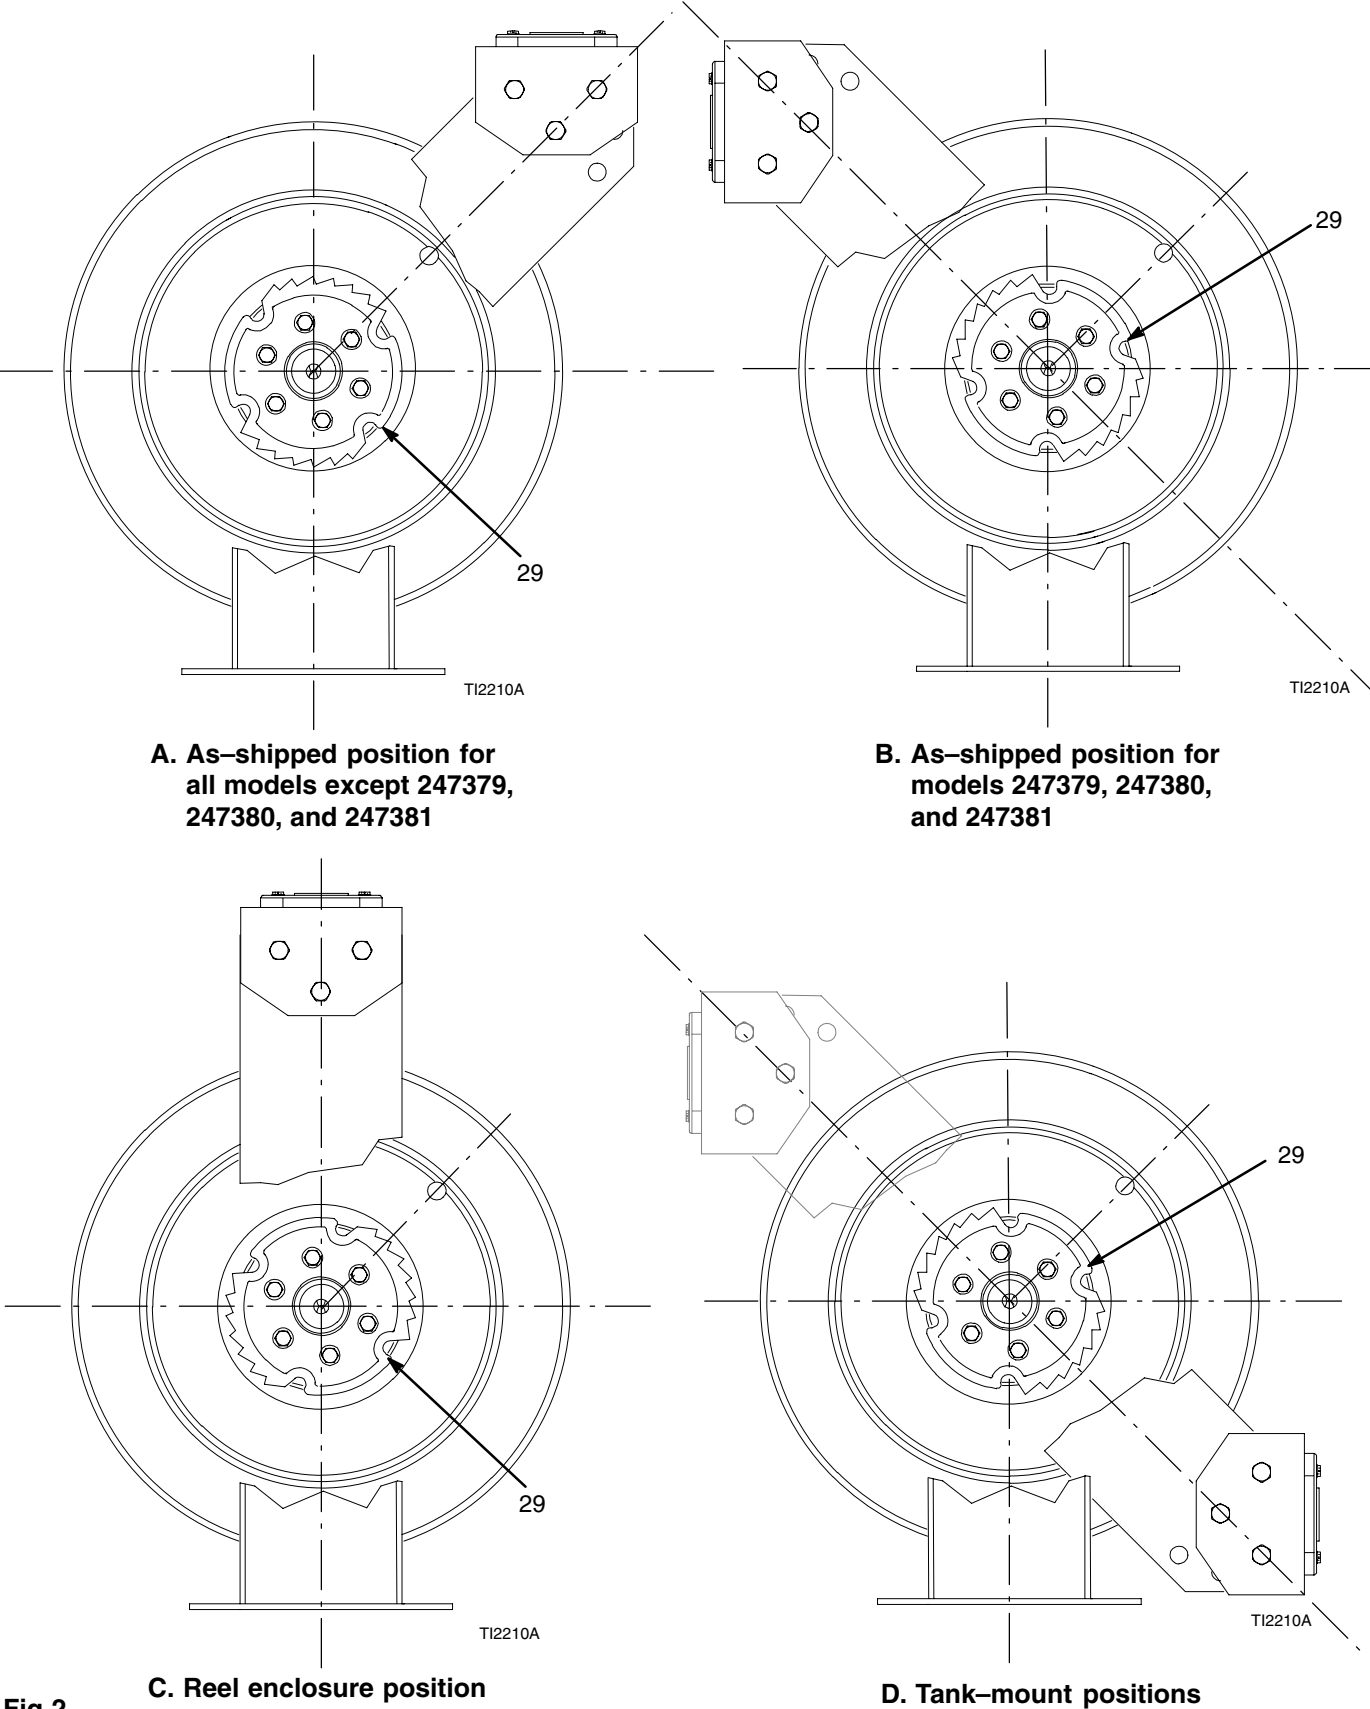
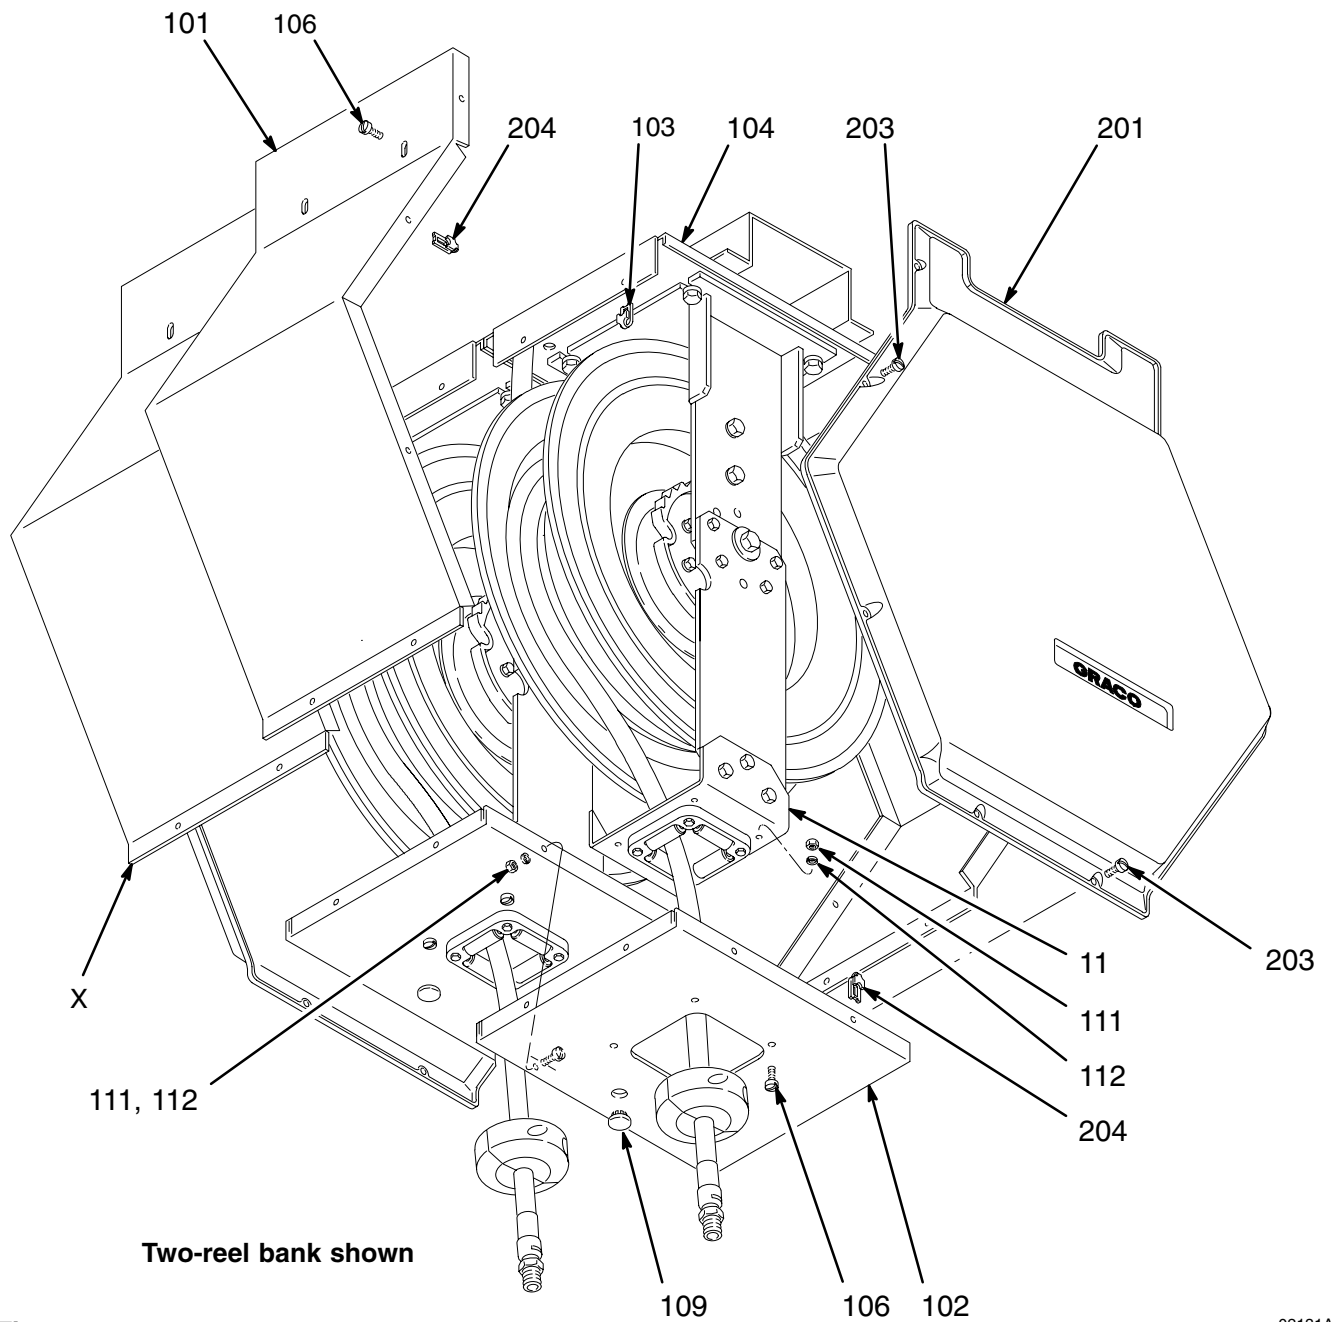

Fig 2
Fig. 8
3. **Before mounting the hose reels,** adjust the roller arm/bracket (U) and ratchet (29) if the desired roller arm position is other than the “as shipped” position. See Fig. 2.
For all models except 247379, 247380, and 247381 the hose reel is factory assembled with the roller arm and bracket angled as shown in Fig. 3 for mounting without a reel enclosure. The ratchet (29) does *not* have to be rotated. See Fig. 2, views A and B.
If mounting with a reel enclosure, align the roller arm/bracket as shown in Fig. 8 on page 15. Rotate ratchet (29) clockwise one screw hole (60°). This will ensure retraction when the hose is at maximum extension. See Fig. 2, view C.
If mounting on a tank with hose being pulled from top or bottom of reel, rotate ratchet (29) clockwise two screw holes (120°). This will ensure retraction when the hose is at maximum extension. See Fig. 2 view D.
- d. After the screw (17) and nut (7) are tightened, secure the roller arm (U) to the reel base (21) with the screws (18). Torque the screws (18) to 25–35 ft. lbs. See Fig. 8, page 15, to install the screws in the proper holes for a straight roller arm and bracket position.
1. Mount the adapter plate (104) between the hose reel and I-beam or other mounting surface. See Fig. 8.
2. Secure the hose reel cap (102) to the roller bracket (11), using the screws (106), lockwashers (112) and nuts (111) as shown in Fig. 8. Push the button plug (109) into the hole in the cap (102).
3. For more than one reel, bolt the caps (102) together as shown in Fig. 8.
4. Hook the lip (X) of each side panel (101) inside the cap (102). Secure the panels to the adapter plate (104) and the cap, using the screws (106) and spring nuts (103).
5. Attach the end panels (201), using the screws (203) and spring nuts (204).